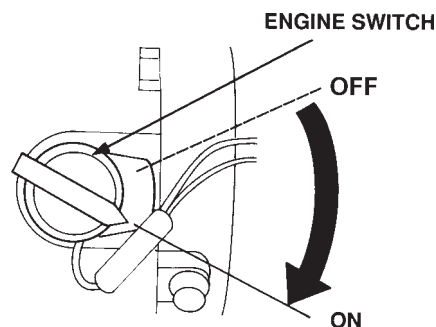

Figure 19. Engine ON/OFF Switch
4. Place the engine ON/OFF switch (Figure 19) in the ON position position.